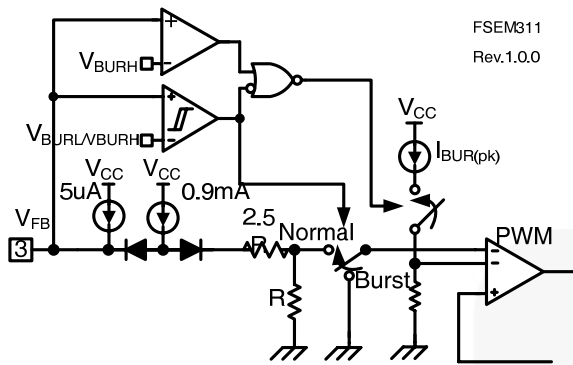

**Figure 18. Pulse-Width-Modulation (PWM) Circuit**
**5. Soft Start:** The FPS has an internal soft start circuit that slowly increases the feedback voltage together with the Sense FET current after it starts up. The typical soft start time is 15msec, as shown in Figure 18, where progressive increments of the Sense FET current are allowed during the start-up phase. The pulse width to the power switching device is progressively increased to establish the correct working conditions for transformers, inductors, and capacitors. The voltage on the output capacitors is progressively increased with the intention of smoothly establishing the required output voltage. It also helps to prevent transformer saturation and reduce the stress on the secondary diode.